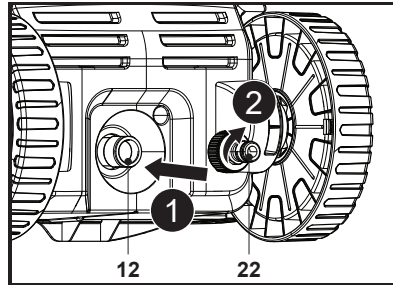

Fig. 9
Align and screw the water inlet adaptor (22) onto the water inlet connector (12) at the back of machine (Fig. 9, steps 1, 2).